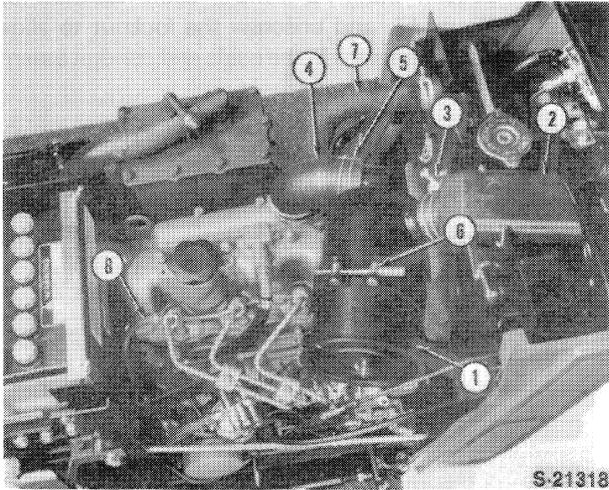
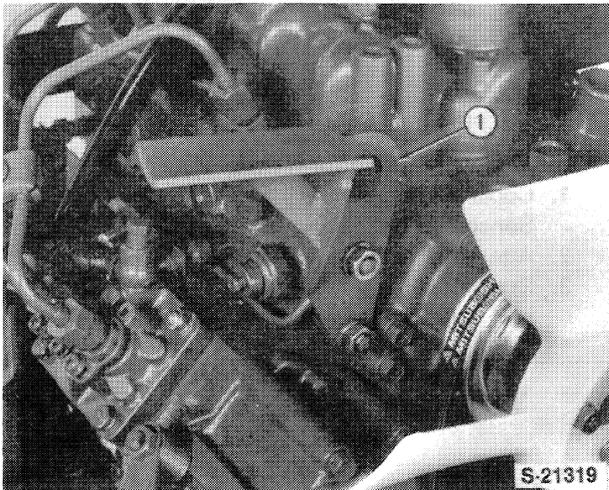

Figure 9
Figure 10
8. Remove the air cleaner as follows; Reference Figure 9.
- Loosen the intake tube clamps (3) and remove the intake tube (2).
- Loosen the air cleaner hose clamps (5) and remove the hose (4).
- Loosen the air cleaner canister retaining clamps (6) and remove the air cleaner assembly from the mounting bracket.
- Remove the mounting bracket bolts and spacers and remove the bracket (1) from the cylinder head, Figure 10.
9. Remove the upper radiator hose (7), Figure 9.
10. Remove the injector fuel leak-off tube (8), Figure 9.